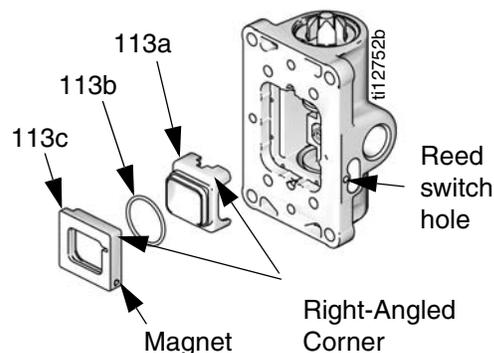

FIG. 7: Two-piece cup installation
In the following step, when assembling the cup body and cup base, note that they can only go together one way. The cup body (113a) and cup base (113c) both have a right angle edge in one corner. To prevent damaging the o-ring, do not force these parts together in the wrong orientation. See FIG. 7.
8. See FIG. 7. Lubricate and install the cup o-ring (113b) on the cup body (113a), then assemble the cup body to the cup base (113c). Lubricate and install the cup assembly. Align the small round magnet with the reed switch hole.